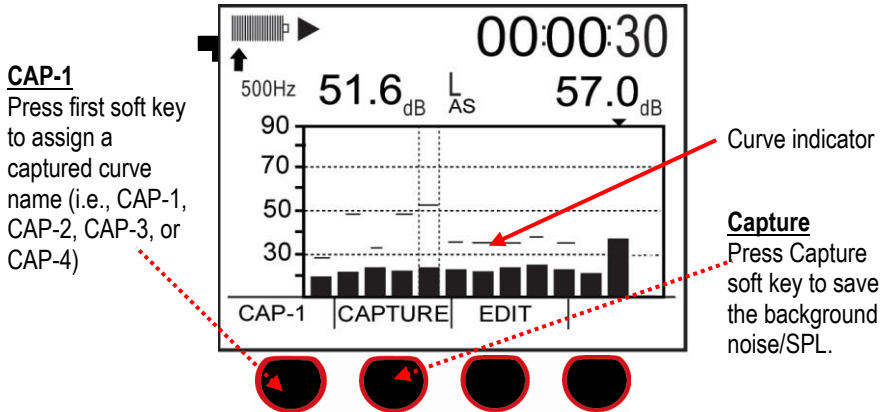

Figure 6-26: Captured curves/background noise
3. Capturing curve/background noise: (See Figure 6-26 below.)
- When the level is stabilized, press the **“Capture”** key. (See Figure 6-26.)